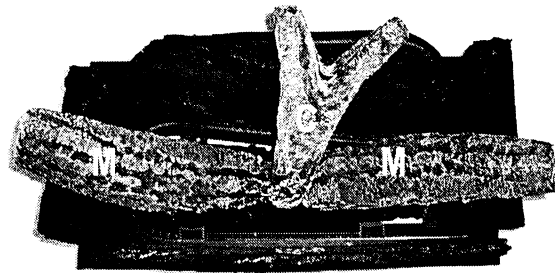

FIGURE 9C
3. Position top logs 'M' and 'C' onto the previously positioned logs as shown in figure 9C.